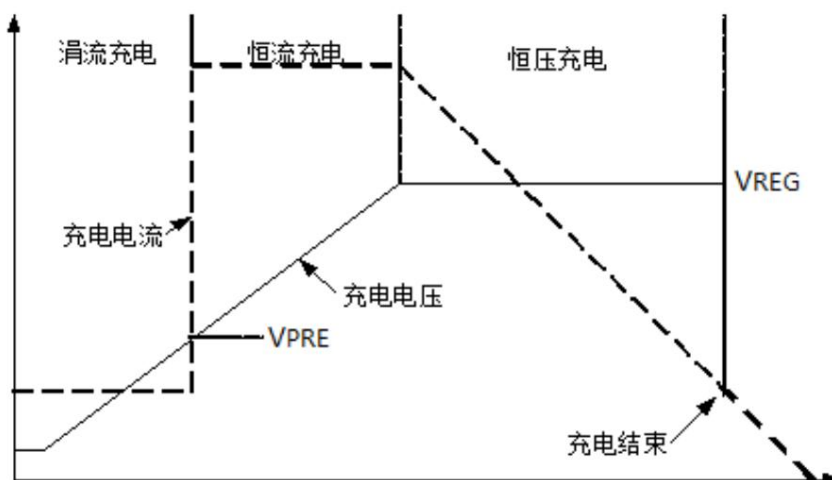

Figure 4 Schematic diagram of the charging process
reduce the charging current. When the input voltage is greater than the low voltage latch threshold and the battery voltage, CN3158 **CHRG** charge the battery, and the pin outputs a low level, indicating that charging is in progress. If the voltage of the battery voltage detection pin (FB) is lower than 70% of the constant voltage charging voltage, CN3158 pre-charges the battery with trickle current. When the voltage of the battery voltage detection pin (FB) exceeds 70% of the constant voltage charging voltage, CN3158 uses constant current mode to charge the battery, and the charging current is set by the resistor R_{ISSET} between the ISET pin and GND. When the voltage of the battery voltage detection pin (FB) approaches the constant voltage charging voltage, the charging current gradually decreases, and CN3158 enters the constant voltage charging mode. When the battery voltage reaches the constant voltage charging voltage and the charging current decreases to the **CHRG** charging end threshold, the charging cycle ends, the terminal outputs a high impedance state, and the terminal outputs a low level, indicating that the charging cycle ends. The charging end threshold is 10% of the constant current charging current. If you want to start a new charging cycle, just turn off the input power supply and then turn it on again. At the end of charging, when the charging current rises to more than 30% of the constant current charging current, a new charging cycle starts automatically. The high-precision voltage reference source, error amplifier and resistor divider network inside the chip ensure that the error of the constant voltage charging voltage is within ±1%, which meets the battery requirements. When the input voltage is powered off or the input voltage is lower than the battery voltage, CN3158 enters a low-power sleep mode, and the current consumed by the battery end is less than 3uA, thereby increasing the standby time. The above charging process is shown in Figure 4: